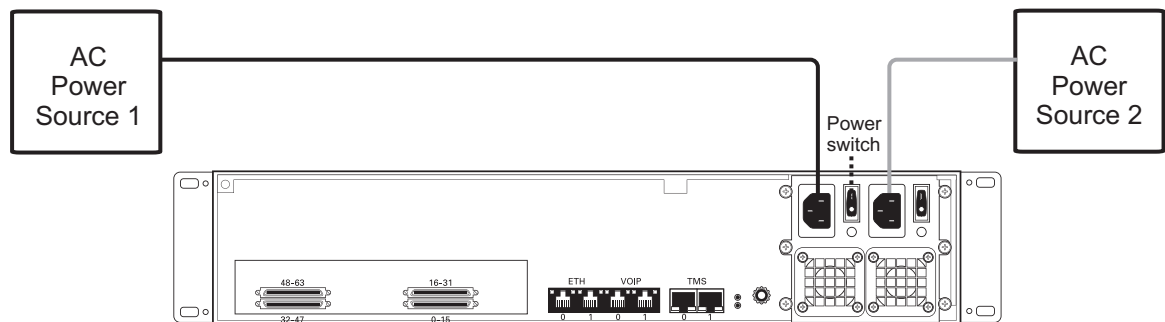

Figure 2.30 AC Power Connection
1. Connect an AC power cable between the AC connector of the TMG7800 Telecom Unit and an AC supply. See figure 2.30 on page 39.
Note If the TMG7800 Telecom Unit features a second power supply and it is not connected to an AC power source, press the green button located at the rear of the unit to disable the audible alarm. See figure 2.30 on page 39.